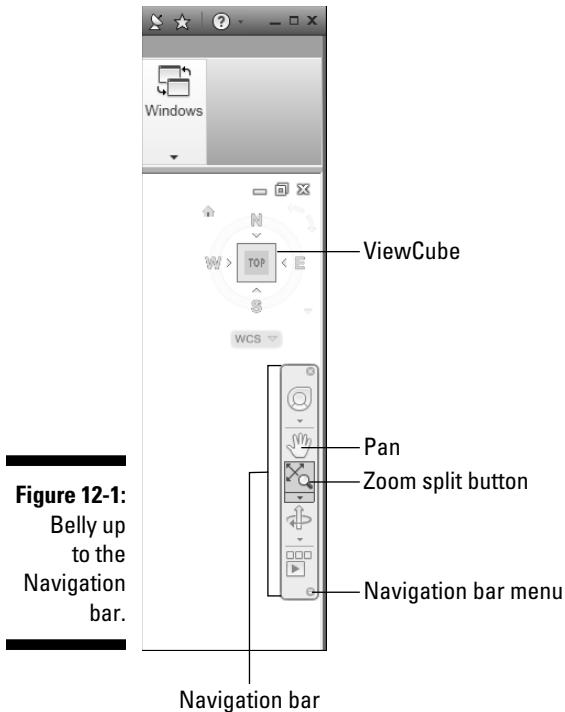

Figure 12-1:
The Navigation bar is linked by default to another interface component named the ViewCube. The ViewCube was present in AutoCAD 2010, but only in 3D viewing modes; it's now available in 2D Wireframe mode as well. (AutoCAD LT users get the Navigation bar, but not the ViewCube.) Figure 12-1 shows the upper-right corner of the AutoCAD window with the ViewCube and Navigation bar in their default locations.
- ✓ **To turn off navigation buttons:** Open the Navigation bar’s menu by clicking the down arrow at its bottom-right corner (refer to Figure 12-1) and unchecking SteeringWheels, Orbit, and ShowMotion.